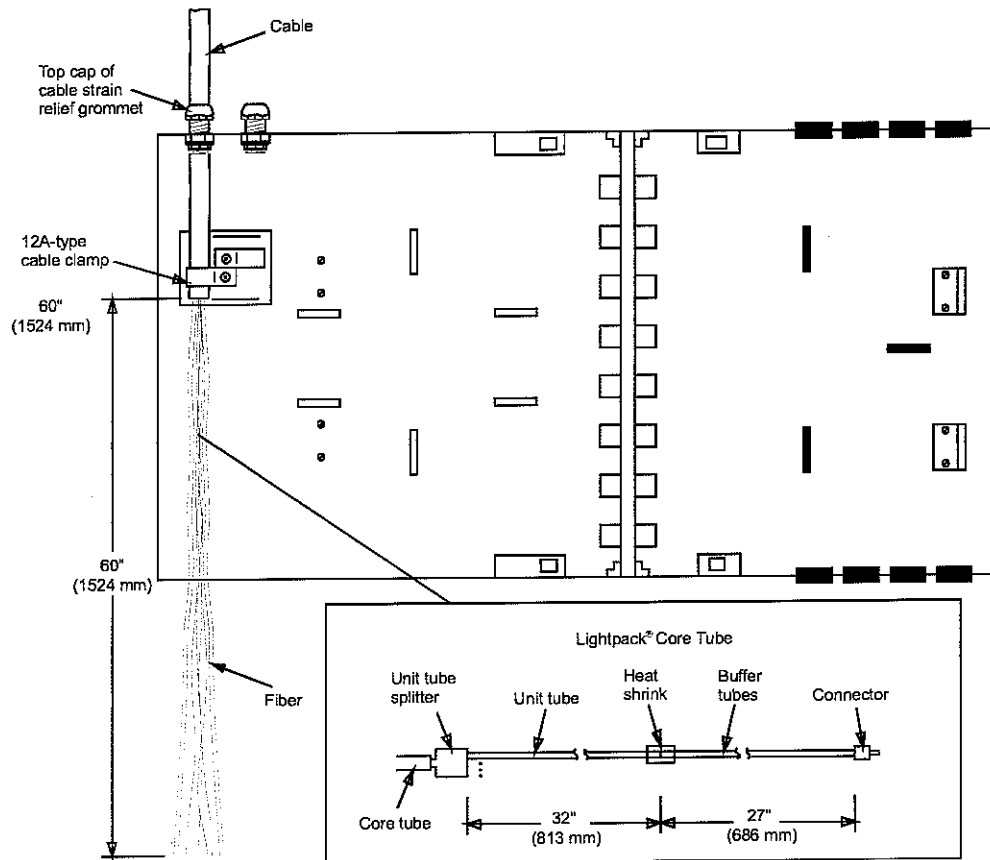

Figure 8—Cable Preparation
1. Route cable through the cable strain relief grommet into the 400A unit (Figure 8).